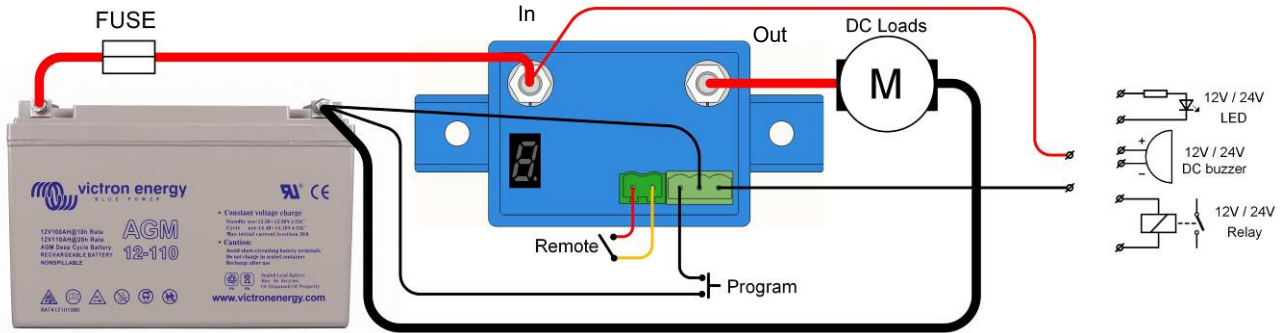

Figure 1: Connection diagram of the BP-65
- The BatteryProtect (BP) must be installed in a well-ventilated area and preferably close (max 50 cm) to the battery (but, due to possible corrosive gasses not above the battery!). **Voltage drops over a long or undersized cable between the battery plus and the BP may result in a short circuit alarm when starting-up the load, or unexpected shutdown.**
- A remote on-off switch can be connected to the two pole connector (see figure 1) or between pin 2-1 of the two pole connector and the battery plus.
- A buzzer, LED or relay can be connected between the alarm output and the battery plus (see figure 1). Maximum load on the alarm output: 50 mA (short circuit proof).